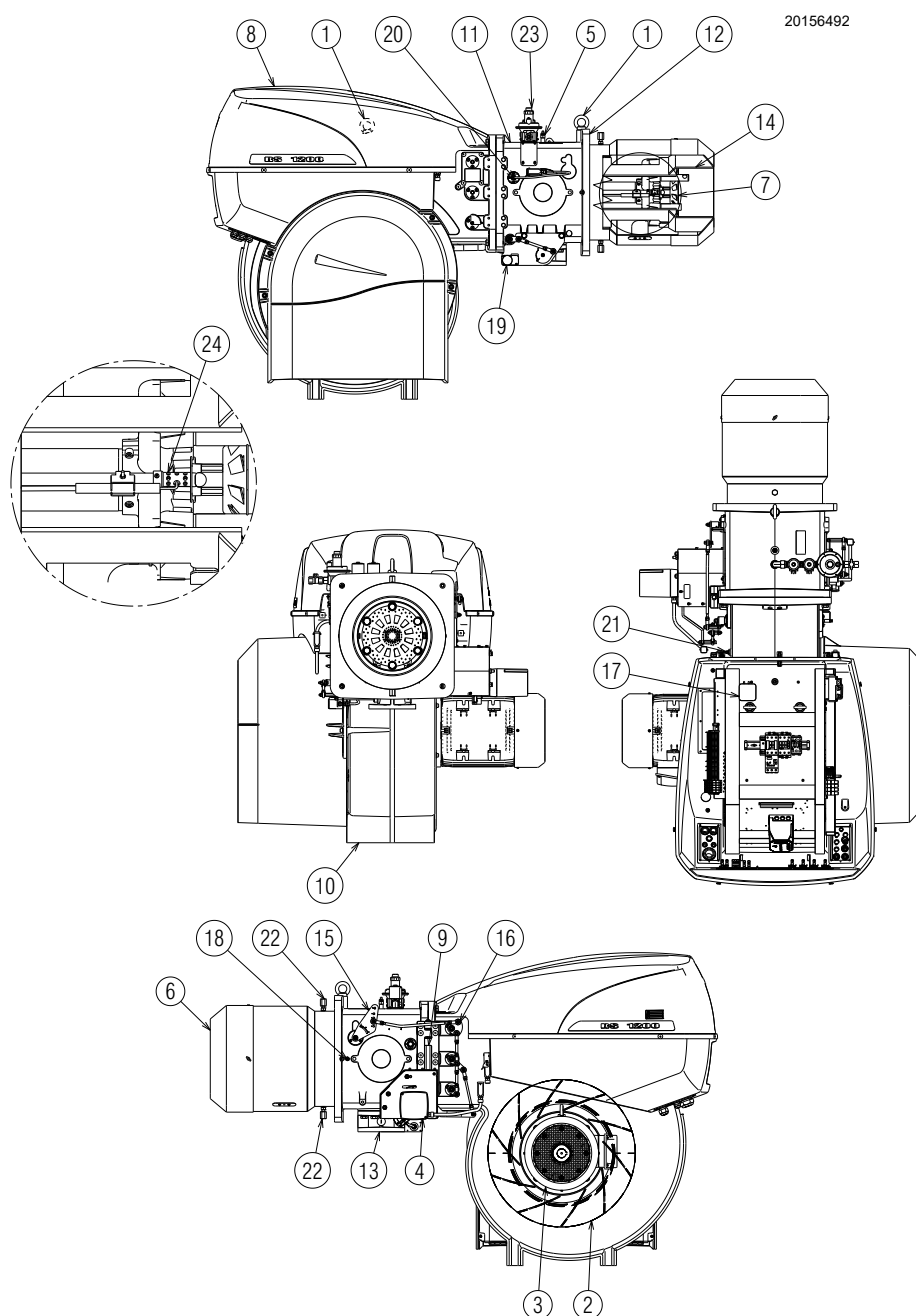

Fig. 4
- (1) Reference conditions: Ambient temperature 20°C - Gas temperature 15°C - Barometric pressure 1013 mbar - Altitude 0 m a.s.l.
(2) Pressure on the socket 5)(Fig. 4 on page 11) with zero pressure in the combustion chamber and at maximum burner output.
(3) Sound pressure measured in manufacturer's combustion laboratory, with burner operating on test boiler and at maximum rated output. The sound power is measured with the "Free Field" method, as per EN 15036, and according to an "Accuracy: Category 3" measuring accuracy, as set out in EN ISO 3746.